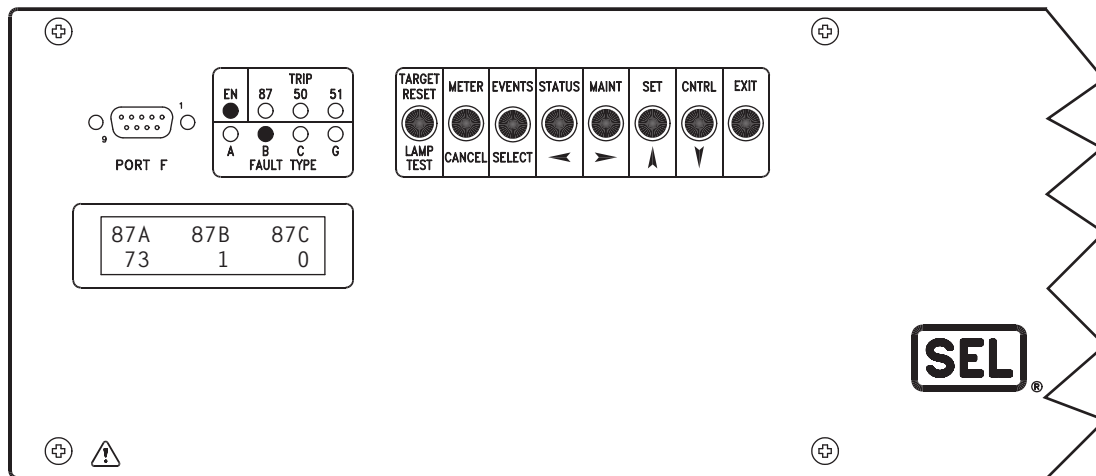

Figure 13 Front-Panel Display
The SEL-587Z includes eight status and trip target LEDs on the front panel. These targets are shown in *Figure 13* and explained in *Table 5*. The target LEDs indicate conditions that the relay has detected on the power system and how the relay has reacted. Nonvolatile memory stores the states of all eight LEDs. If the relay loses power, the targets will resume their last state when power returns.
Use the SEL ASCII **TAR *n*** command (*n* = row number) to assign relay variables to the LEDs during testing. This provides a visual indication of the status of more than 100 variables in the relay. Local Bit (LB) variables, the equivalent of panel switches, are stored in Row 7 in the relay. For example, assume LB1 and LB6 are asserted. Entering **TAR 7** results in the LED display shown in *Figure 13*.